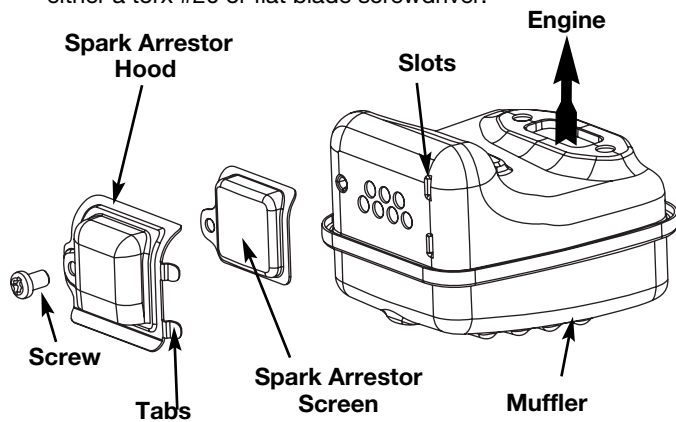

Fig. 37
- Locate the muffler, but do not remove it. Find the screw on the bottom of the muffler (Fig. 37). Remove the screw using either a torx #20 or flat blade screwdriver.
3. Replace a cracked, fouled or dirty spark plug. Set the air gap at **0.5 mm (0.020 in.)** using a feeler gauge (Fig. 37).